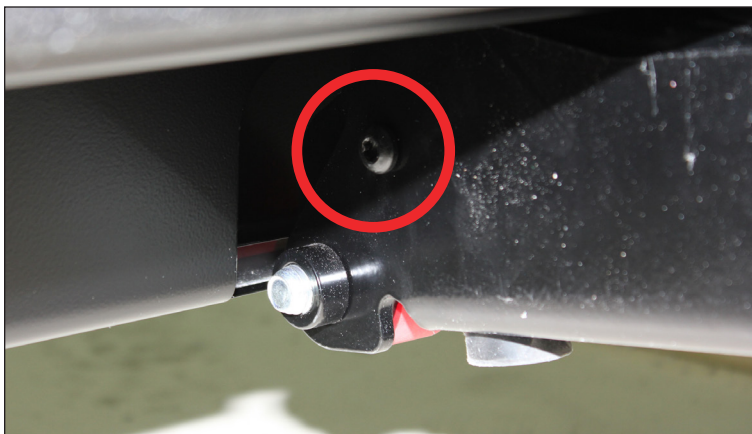

Figure 12: Reinstall Torx Screws
9. Use a T30 Torx bit to reinstall both 1/4" Torx screws. Refer to **Figure 12**. These bolts act as stops to prevent the front face of the table from tilting forward more than 90°.